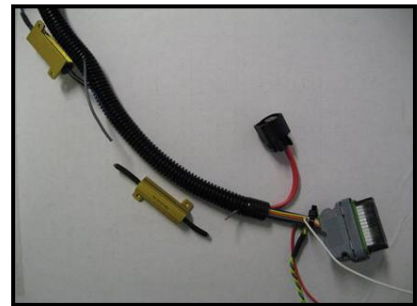

FIG 2 | *Cut resistor from harness*
- STEP 4 (fig 2)** Remove the resistor connected by the grey wires in harness by cutting wires on either side close to the resistor.